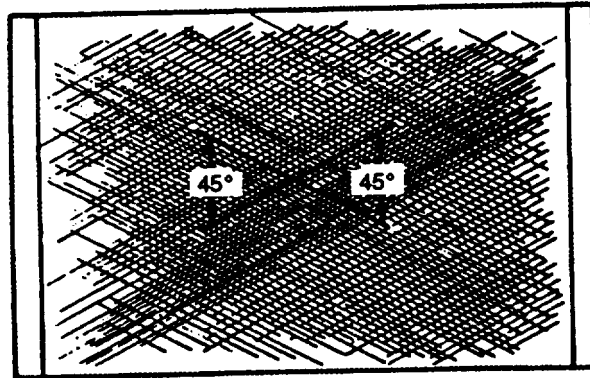

FIGURE 3-143. Deglazed 45 Degree Cross Hatch Pattern
- (3) Use deglazer, to deglaze liner and obtain a 45 degree cross hatch pattern, refer to FIGURE 3-143.
- (c) Move deglazer in an up and down direction 10 to 12 complete strokes per cylinder. Move deglazer rapidly enough to obtain a 45 degree crosshatch pattern as shown in FIGURE 3-143.